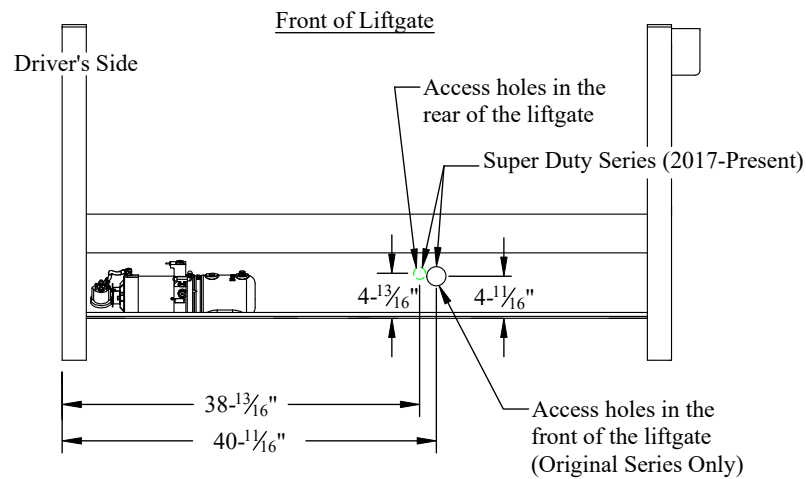

Figure 12: Spare tire access.
2. **Remove** and **Discard** the black plastic plug(s) from the mainframe at the dimensions shown or **Drill** a hole as indicated if one does not exist (Figure 12).